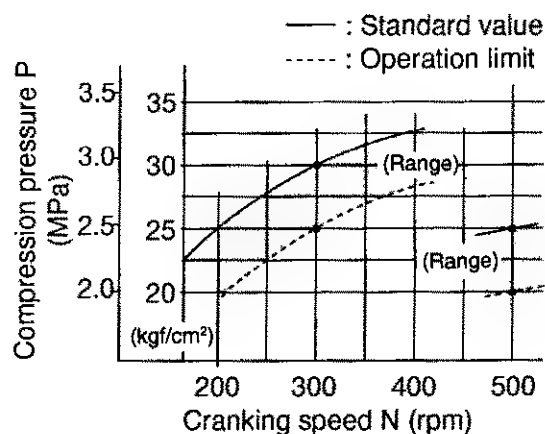

Fig.6.4.6 Compression pressure
- ④ After cranking, wait until the pressure stabilizes and read the compression pressure P. If the measured pressure exceeds the operation limit (range) shown in Fig. 6.4.6, repair or replace the parts including related parts.